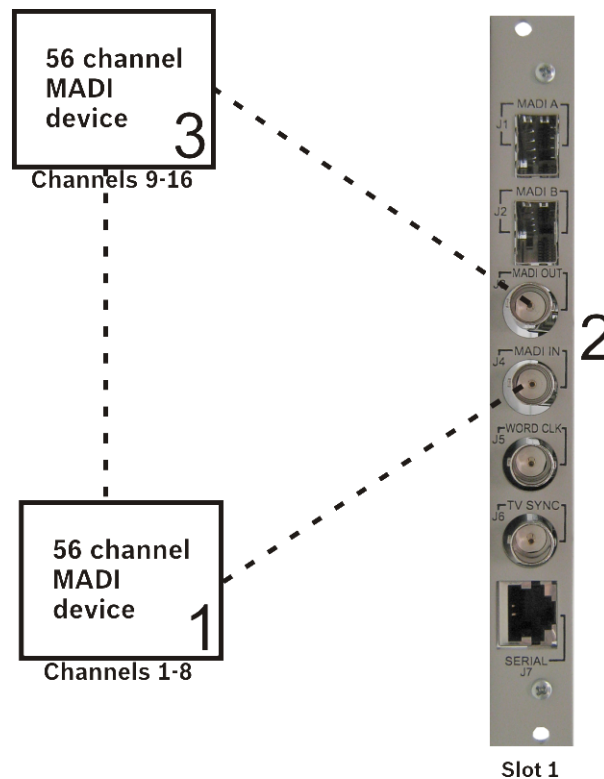

FIGURE 25. MADI Merge Example
The example shown in Figure 25 shows two (2) MADI devices sending 8 channels each to one (1) MADI 16 Plus Card. The audio path for the channels is as follows: